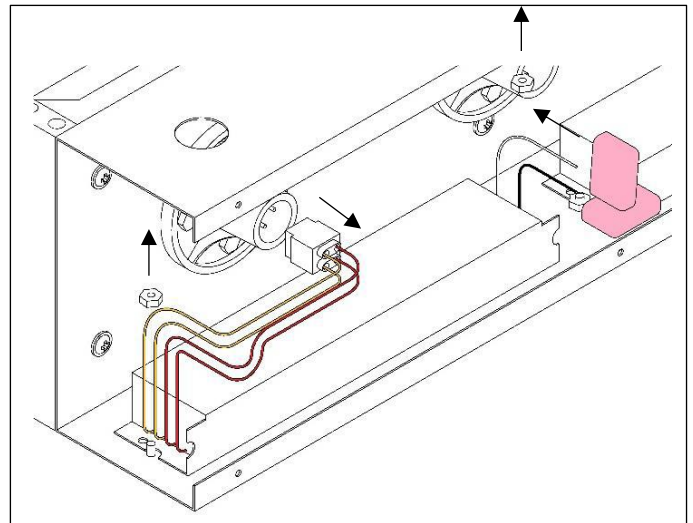

Figure 26
6.) Use an 11/32" socket wrench to remove the (2) nuts holding the ballast into place. See Figure 26.